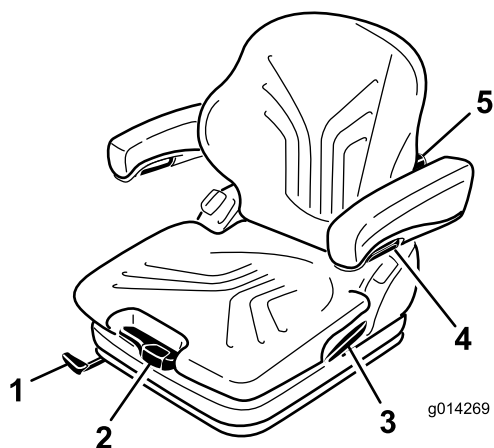

Figure 15
Adjust the seat for your body weight by pulling or pressing the weight-adjustment lever (Figure 15).
1. Lift the lever to unlock the seat (Figure 15).
By turning the adjustment knob upwards, the curvature in the upper part of the backrest cushion can be adjusted. By turning the knob downwards, the curvature in the lower part of the backrest cushion can be adjusted (Figure 15).
To adjust the height of the armrests, separate the round cap (Figure 15) from the cover, loosen the hexagon nut (13 mm) behind it and adjust the armrests to the desired position and tighten the nut. Then install the cap onto the nut.
To adjust the angle of the armrests, turn the adjustment knob (Figure 15).
Pull up the locking lever to release the backrest catch (Figure 15). When releasing the backrest catch, do not apply load to the backrest by pressing against it.